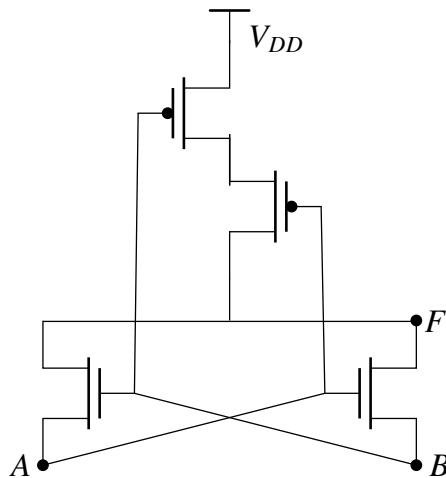

Fig. 3.25: Circuit Diagram
42. In the circuit shown in Fig. 3.25, A and B are the inputs and F is the output. What is the functionality of the circuit? (GATE-EC2019,15)